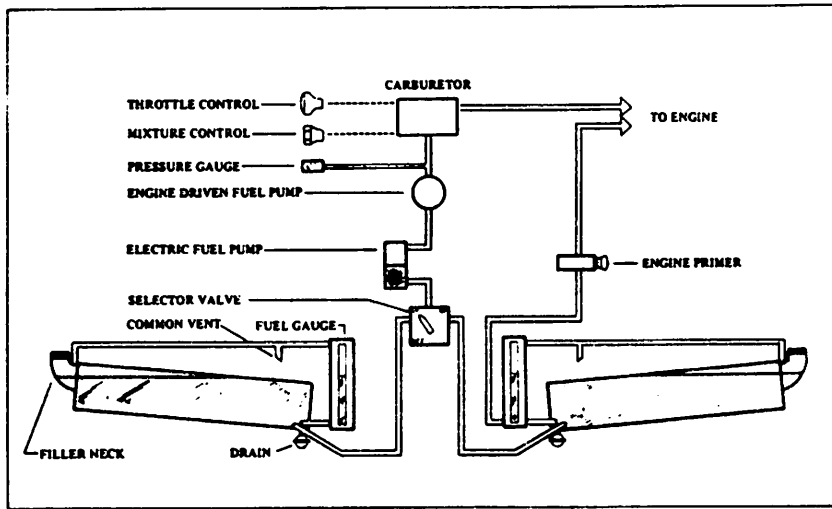

Figure 2. Schematic of Yankee's Fuel System.
**Fuel System:** Yankee's fuel system (Fig. 2) is one of the simplest, and therefore one of the most reliable, in aviation. The tubular main wing spar also serves as a two-cell fuel tank, with each cell holding 11 gallons (useable) or 12 gallons (total). The 22 useable gallons are managed by a fuel selector valve on the center console, clearly marked OFF-LEFT-RIGHT. Fuel quantity is reliably indicated in vertical sight gauges on the left and right cabin walls.